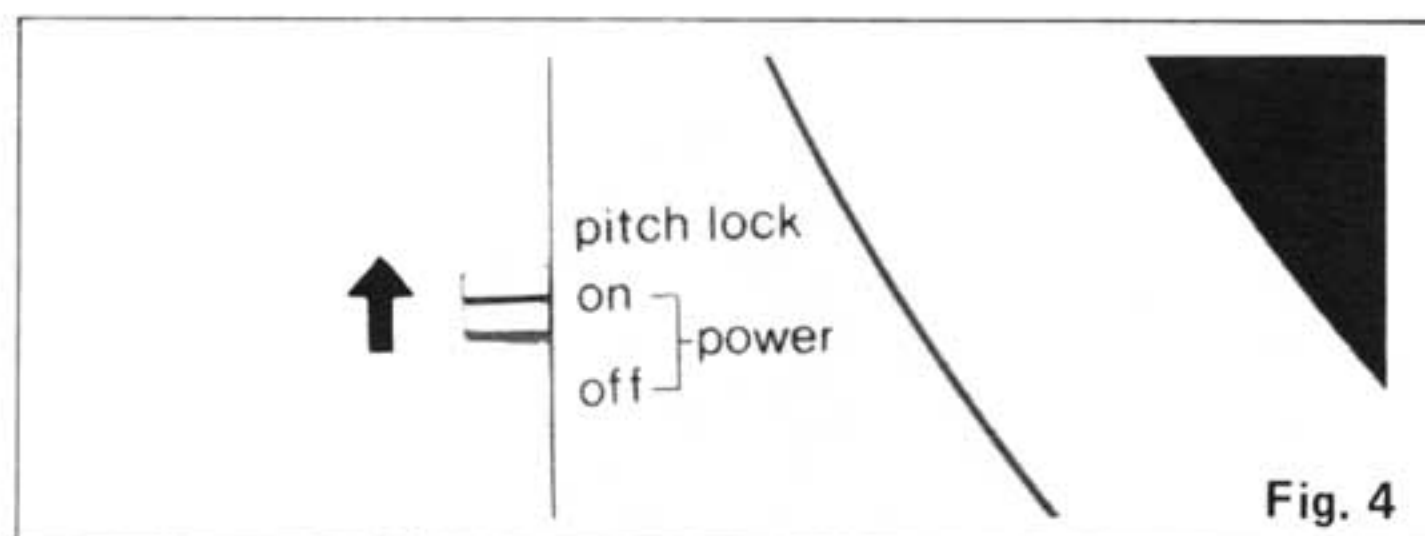

Fig. 4
1. Set the Power switch/pitch lock knob to the "on" position. (See Fig. 4.)